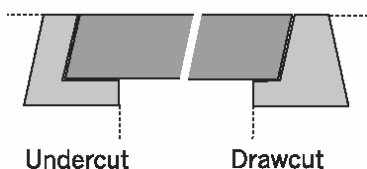
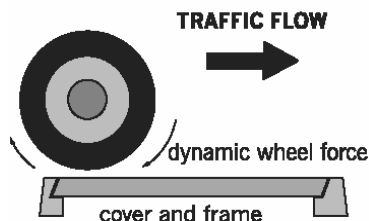

Figure 11 – Undercut & Drawcut Edge
Figure 12 – Road Cover Orientation
3. Set the end frames so that the beam locating boxes are positioned with the corresponding beam pocket/s in the slab. Ensure all the undercut frames are installed at one end and the drawcut frames are installed at the opposite end, see Figure 11. Pack under the corner of the frame joints to raise the level of the frame to the finished floor level. Leave a clearance of 50mm between the concrete beam pocket/s and the beam locating boxes.
The lifting end/drawcut edge of the cover, see Figure 11, should face the orientation of traffic flow to prevent the cover lifting, see Figure 12.